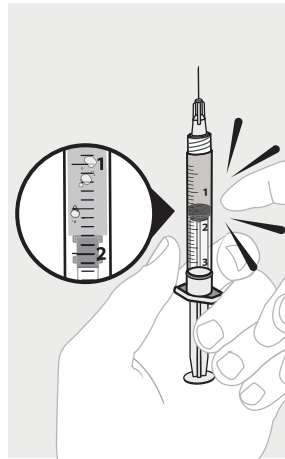

Figure 55
a. Invert the syringe so that the needle is pointing up. Tap on the side of the syringe to loosen any air bubbles until they float to the needle hub (see Figure 55). Press on the plunger until air is expelled.